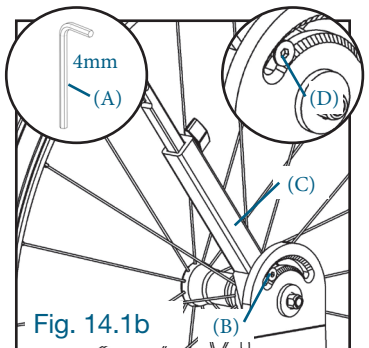

Fig. 14.1b
Adjusting the position of the lateral wheel lock (Fig. 14.1b)
Slightly loosen the tightening screw (A) and pivot the arm (B) toward the back of the device to the desired position. Firmly retighten the tightening screw (A). Ensure the tightening screw (A) is properly aligned with a pre-drilled hole (C) before tightening. Repeat these steps for the lock on the other side. (Fig. 14.1b)